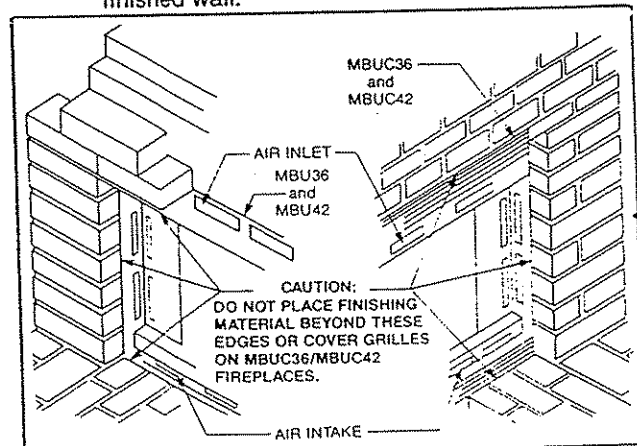

Fig. 20A. Finishing front of fireplace.
**When finishing the fireplace, never obstruct or modify the air inlet/outlet grilles in any manner. (See Fig. 20A.)**